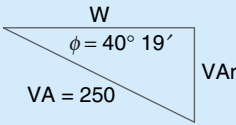

Figure 34
21. Find W and VAr in Figure 34